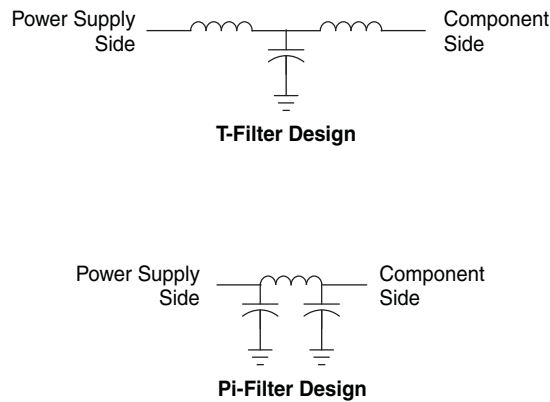

Figure 2. Filter Designs
- When designing filters associated with power distribution, the power supply is a low impedance source and the device power terminals are a low impedance load. The best filter for this application is a T filter. See Figure 2 for a T-filter circuit. Some system may require this type of filter design if the power supplies or nearby components are exceptionally noisy. This type of filter design is recommended if a significant amount of low frequency noise, frequencies less than 10 MHz, is present in a system.
- For most applications a Pi filter will be adequate. See Figure 2 for a Pi-filter circuit. When implementing a Pi filter, the two capacitors and the inductor must be located next to each other on the circuit board and must be connected together with wide low impedance traces. Capacitor ground connections must be short and low impedance.
Figure 2 illustrates two different filter designs that may be used with the XIO3130 to provide lownoise power to critical power terminals.